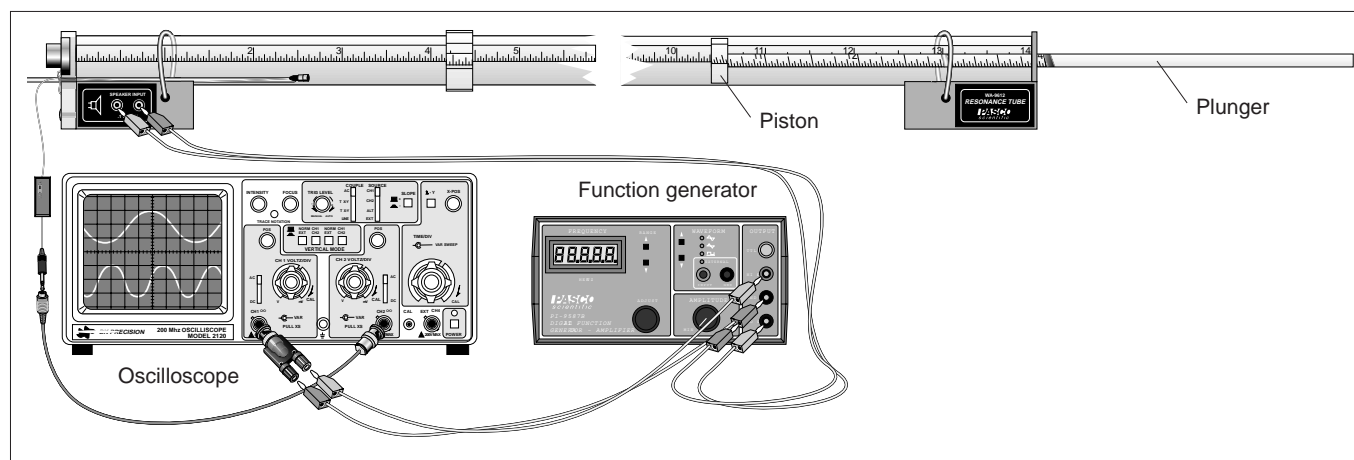

Figure 3.1 Equipment Setup
- ① Set up the Resonance Tube, oscilloscope, and function generator as shown in Figure 3.1. Move the piston to a position very near the end of the tube. Set the signal generator to approximately 800 Hz and turn the amplitude up until the speaker is clearly heard. Record this frequency. If you use the oscilloscope, trigger on the speaker output.